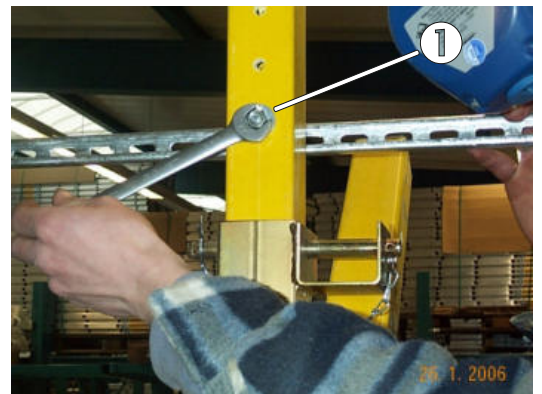

Fig. 41: Inserting the washer to distribute the force
You can gently tighten each of the hexagonal nuts using a flat wrench. The large washer serves to ideally distribute the occurring force (fig. 41/pos. 1).